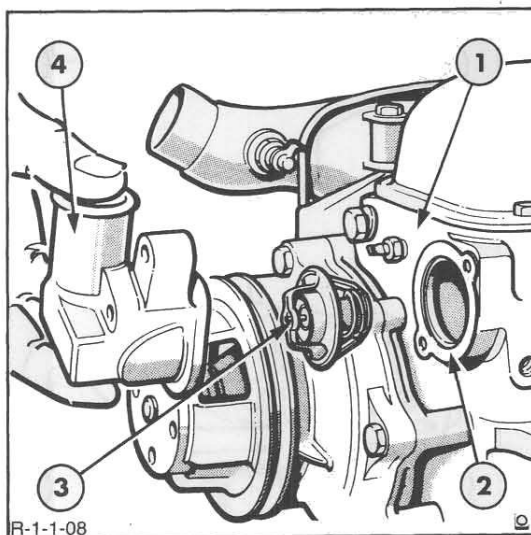
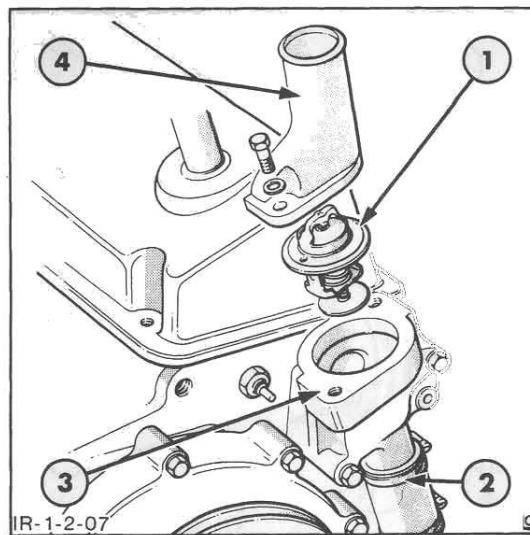

Figure 5
Figure 6
3. Remove the thermostat and gasket, Figure 5 for 3 cylinder engines, Figure 6 for 4 cylinder engines.